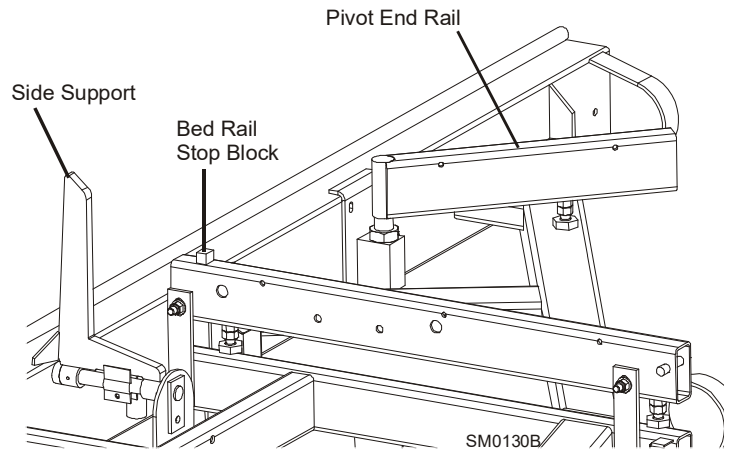

FIG. 3-5
12. Raise the two side supports to prevent the log from falling off the side of the mill when loaded. **See Fig. 3-5.**